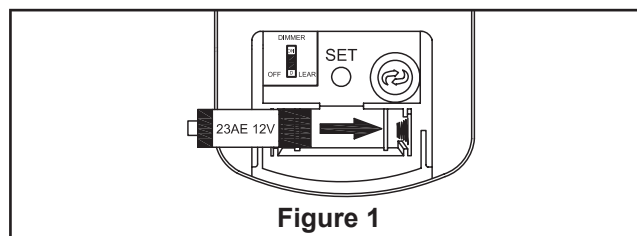

Figure 1
1. To make fan operational, install 23A/12V battery (included) in hand-held remote transmitter, with fan power off. Then follow the remote code setting process. (If not used for long periods of time, remove battery to prevent damage to transmitter). Store the remote away from excessive heat or humidity (Figure 1).